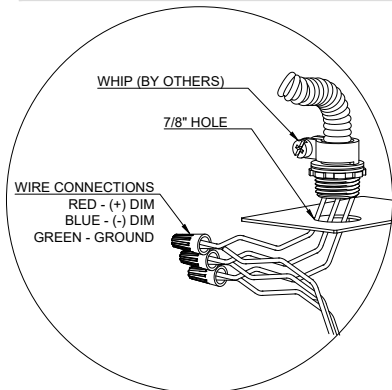

Fig. 5 Wiring details.
5. Splice fixture feed to the pigtail (Fig. 5). Fixture might have more than one power feed depending on fixture size, circuiting, and light output (see submittal drawing for details). Repeat wire splicing if needed.